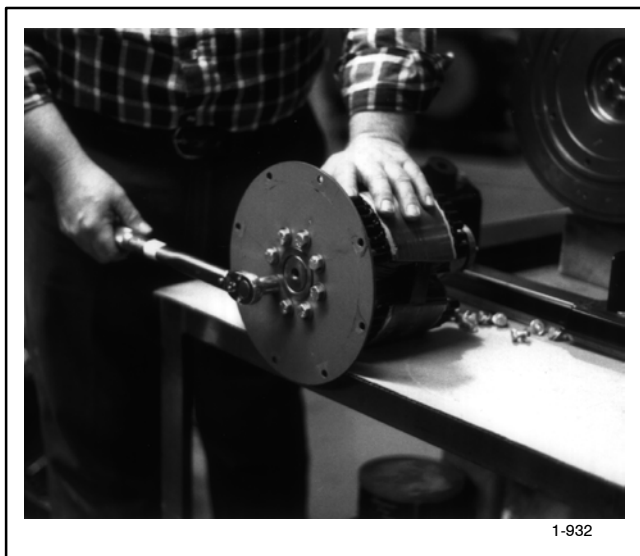

Figure 8-14. Removing the Drive Disk
24. Remove the drive disk from the rotor by removing eight bolts using a torque wrench with a 14-mm socket. See Figure 8-14.